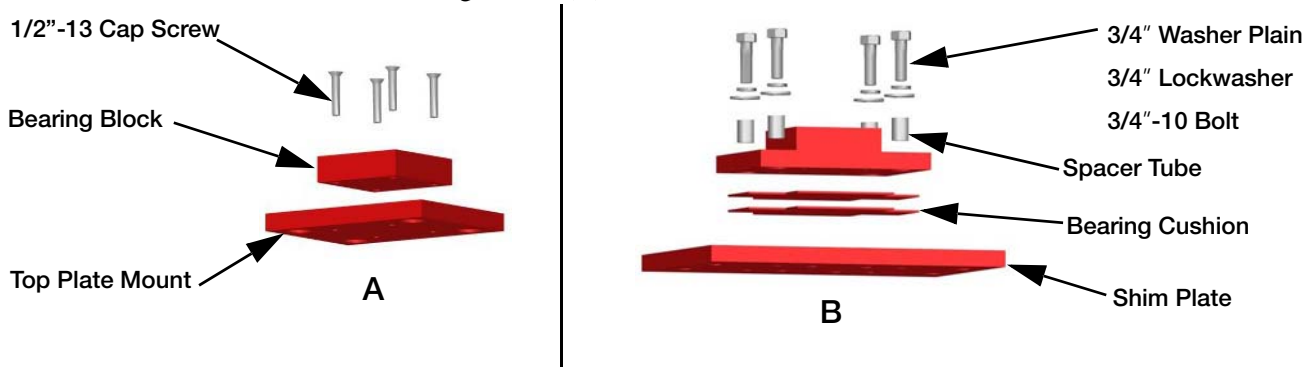

Figure 2-7. Upper Load Cell Mount
2. Assemble the bearing block to the top plate mount, see Figure 2-7 (A).
5. Insert hardware as shown in Figure 2-7 (B).